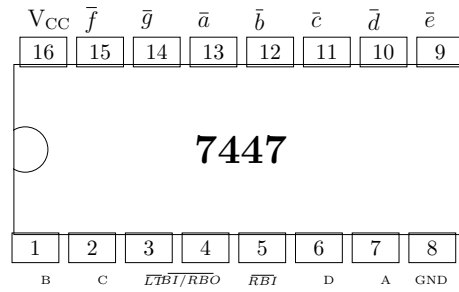

Figure 4: Connection in Decoder gate
5. A,B,C,D of the decoder (7447 IC) is connected with Q_0, Q_1, Q_2, Q_3 respectively as per the figure 4